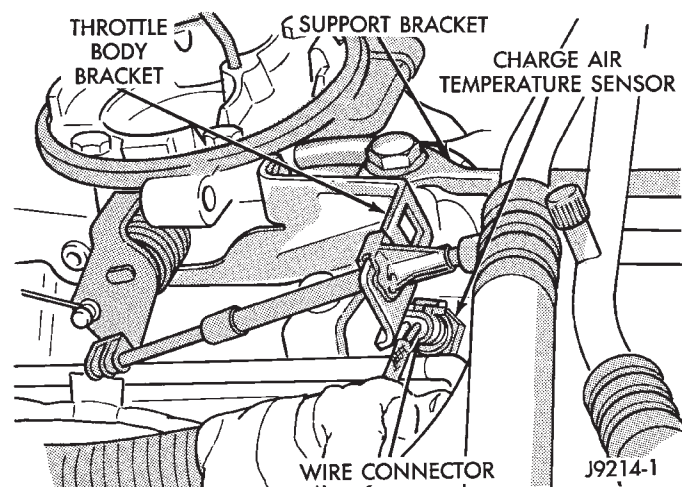

Fig. 6 Charge Air Temperature Sensor—Typical
(13) If equipped with vacuum brake booster, verify that vacuum booster hose is firmly connected to fitting on intake manifold. Also check connection to brake vacuum booster.
(14) Inspect the air cleaner inlet and air filter element for dirt or restrictions.
(15) Inspect radiator grille area, radiator fins and air conditioning condenser for restrictions.
(16) Verify that the intake manifold charge air temperature sensor wire connector is firmly connected to harness connector (Fig. 6).